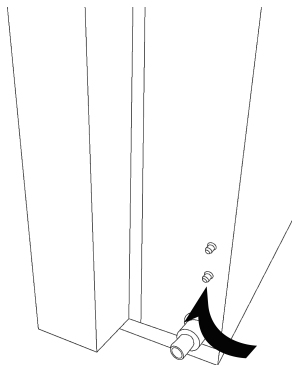

Fig 1.
- Locate the safety reset at the back of the cabinet. It is either a black or red knob (**Fig 1**).